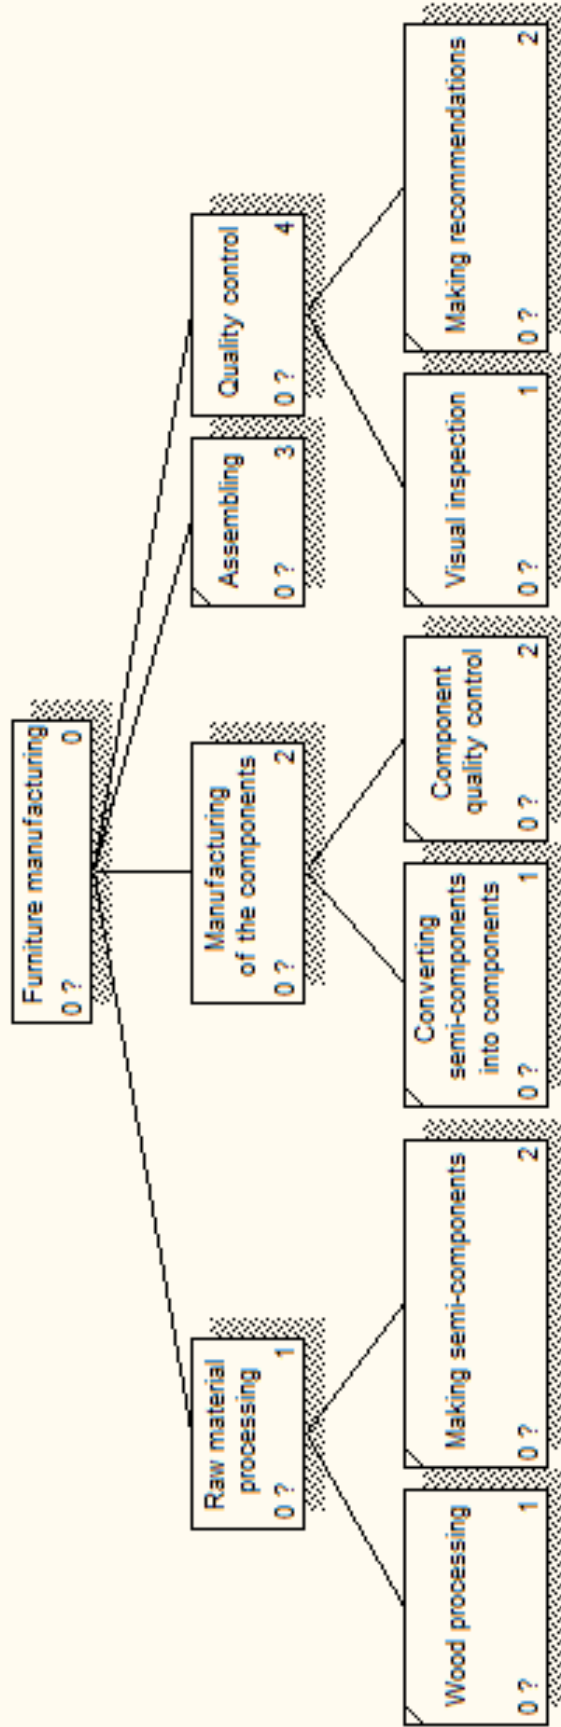

Fig. 4.8. A node tree
4. Check your results (fig. 4.8).